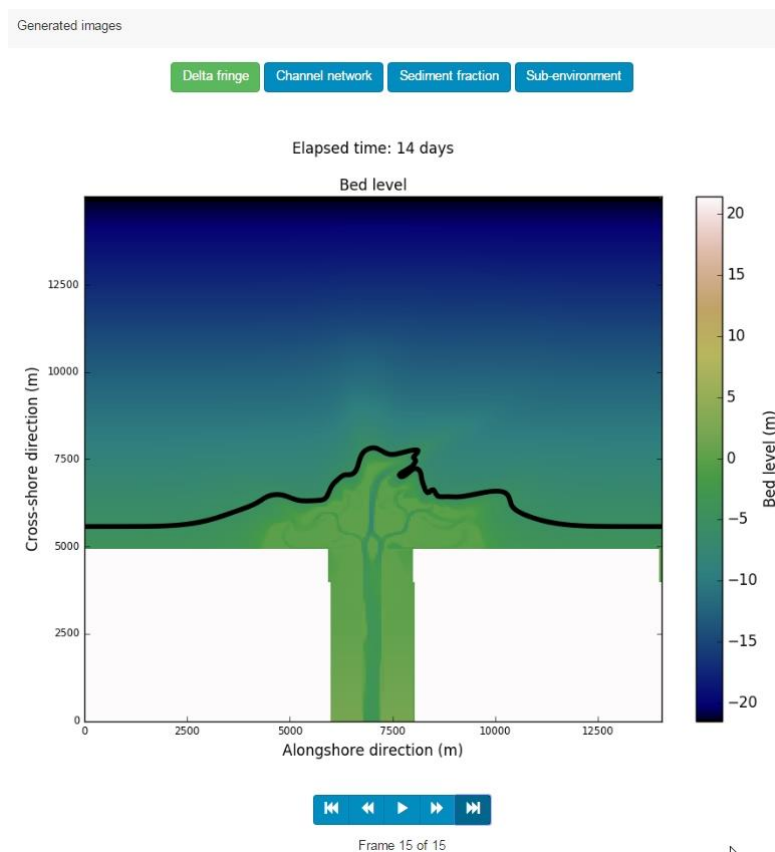

Figure 3.27 Example of Delta fringe output
1. Map view of the delta fringe in time (Figure 3.27)